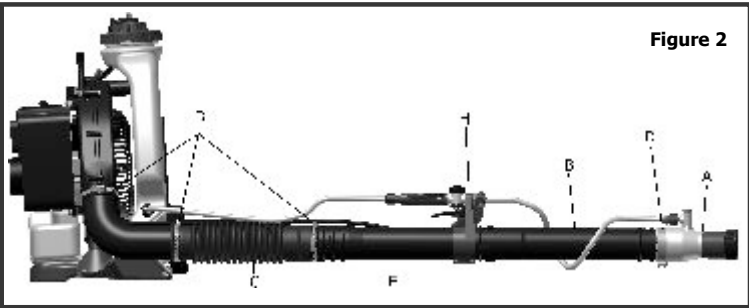

Figure 2
4.1 LIQUID DISCHARGE SET ASSEMBLY (FIGURE 2)